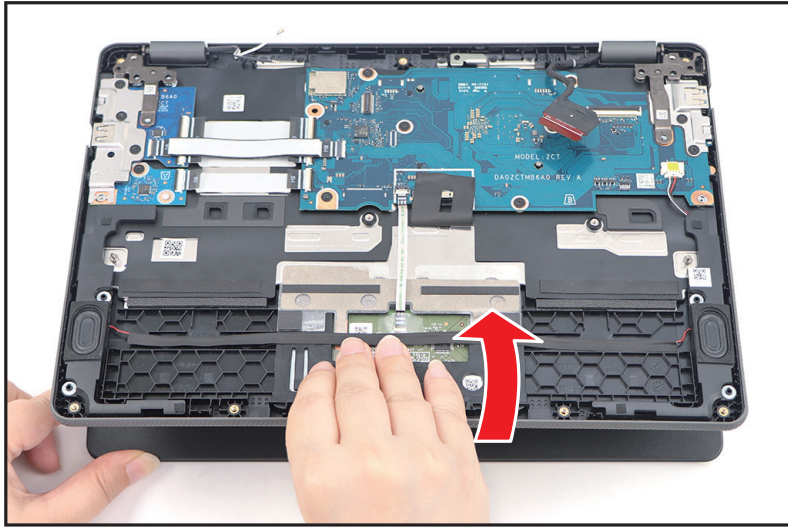

Figure 1-25. LCD Module Removal
4. Lift the top assembly until it is fully open (Figure 1-25).